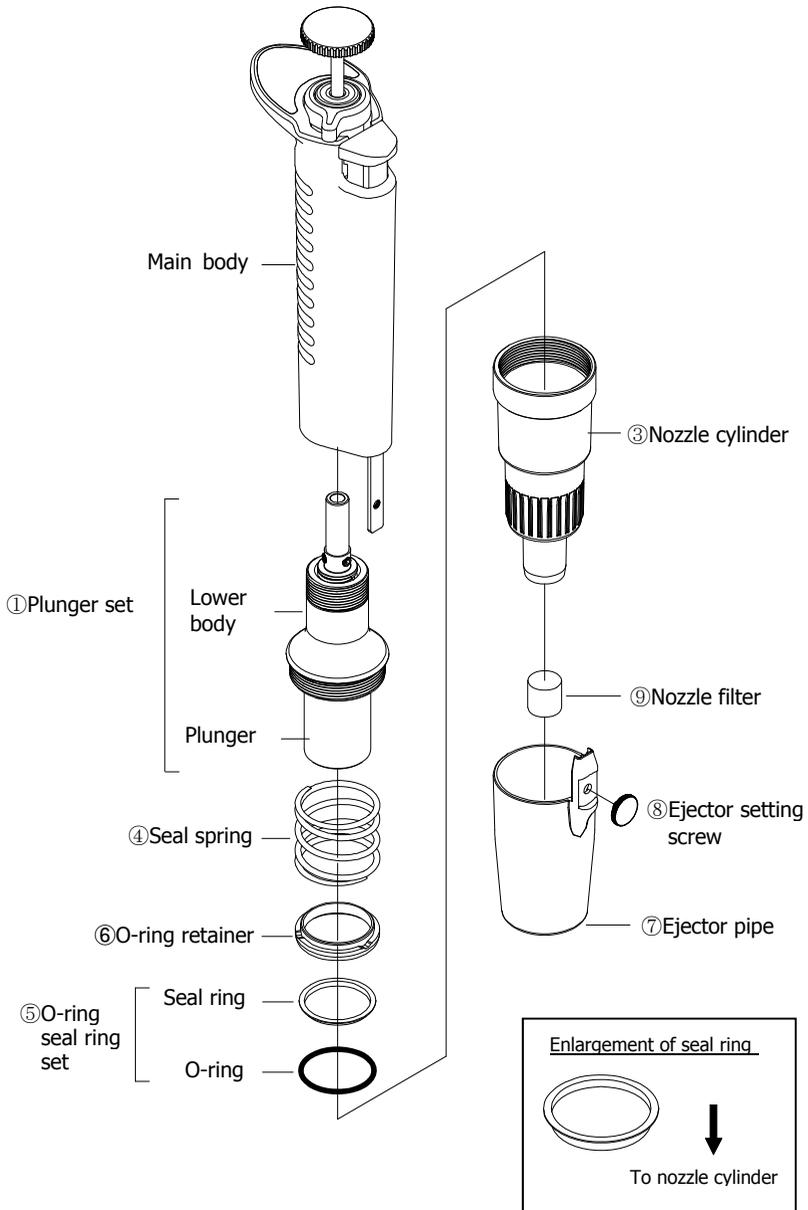
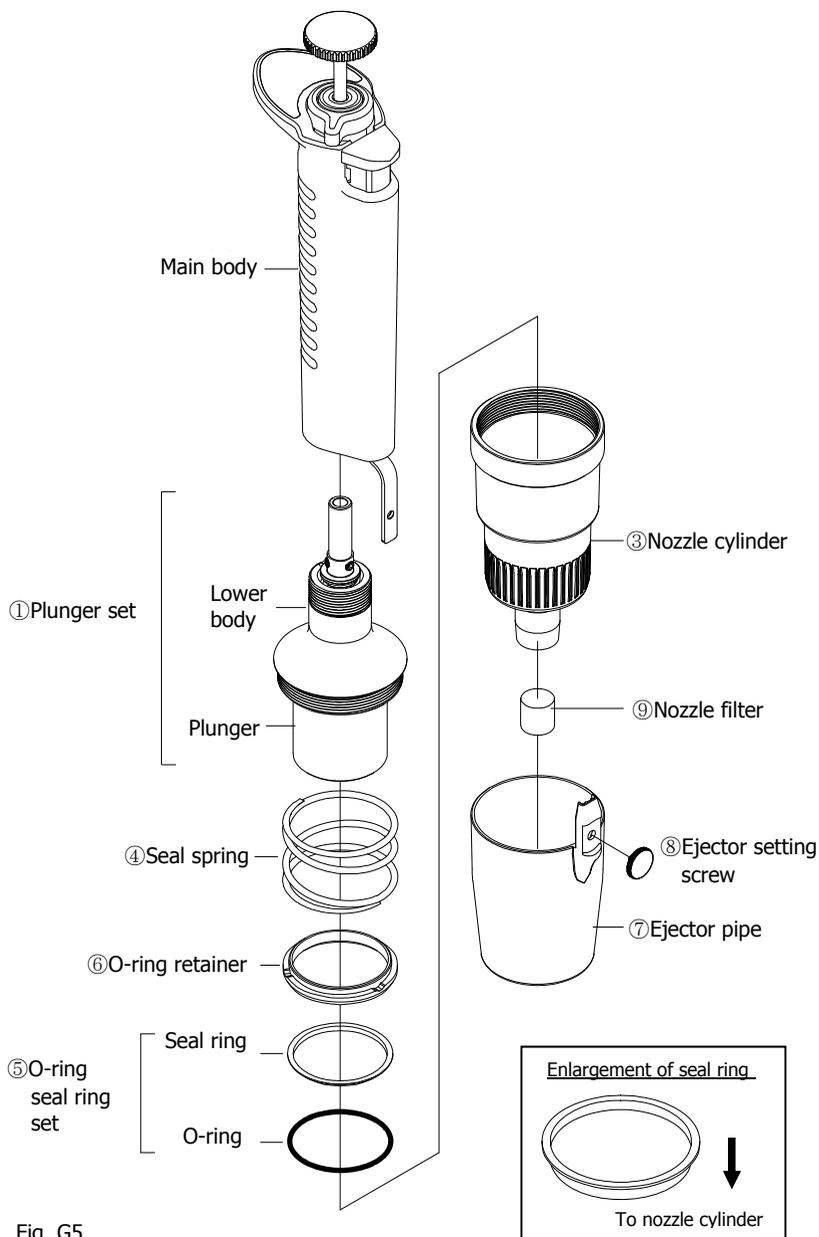

Fig. G4
Fig. G5
- For Models: 5000 $\mu$ L: (Fig. G4) and 10000 $\mu$ L (Fig. G5), remove the seal spring, O-ring retainer, O-ring and seal ring in the nozzle cylinder.
- For Models: 5000 $\mu$ L (Fig. G4) and 10000 $\mu$ L (Fig. G5)
Circled Numbers in (Fig. G4) corresponds to Parts Numbers in the replacement parts list.
Circled Numbers in (Fig. G5) corresponds to Parts Numbers in the replacement parts list.